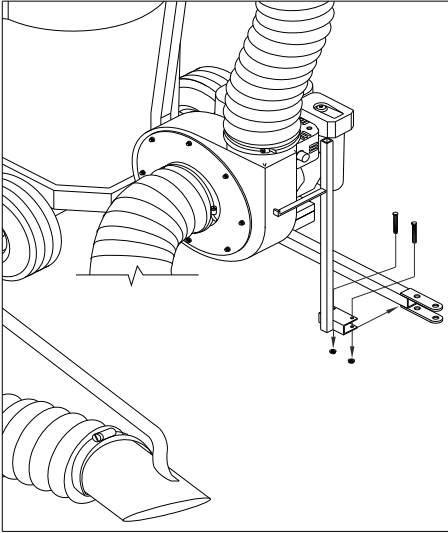

Fig. 10
9. Slid hose support (25) to right side of drawbar and slide it forward close to the draw plate. Secure with 5/16" x 2 1/2" HHC and whizlock nuts included. **Fig. 10**